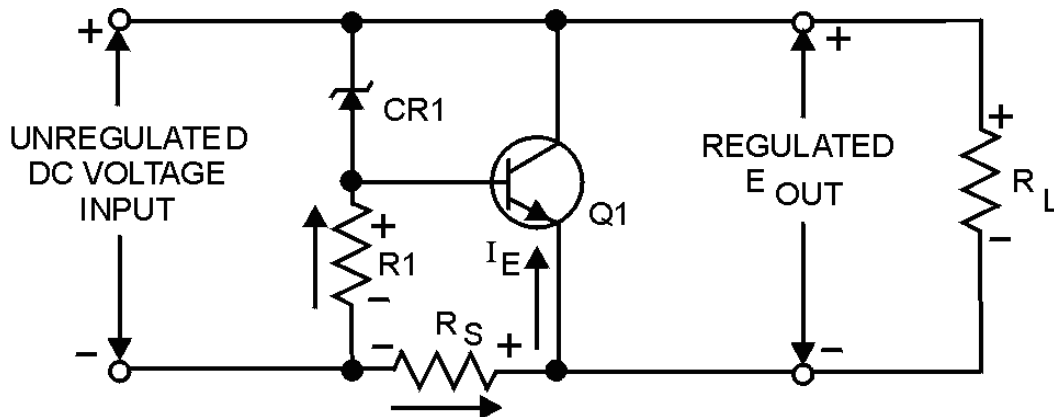
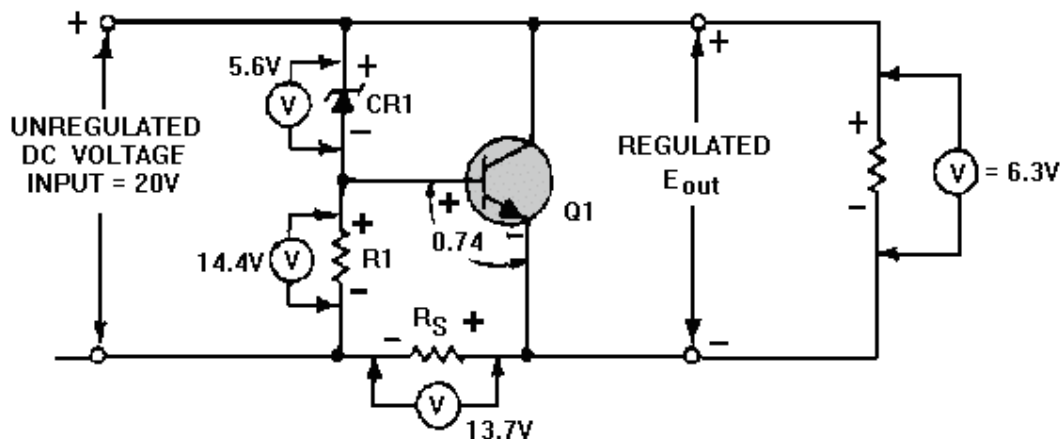

Figure 4-37.—Shunt voltage regulator.
Figure 4-38.—Shunt voltage regulator (with voltages).
The schematic shown in figure 4-37 is that of a shunt voltage regulator. Notice that Q1 is in parallel with the load. Components of this circuit are identical with those of the series voltage regulator except for the addition of fixed resistor  $R_S$ . As you study the schematic, you will see that this resistor is connected in series with the output load resistance. The current limiting resistor (R1) and Zener diode (CR1) provide a constant reference voltage for the base-collector junction of Q1. Notice that the bias of Q1 is determined by the voltage drop across  $R_S$  and R1. As you should know, the amount of forward bias across a transistor affects its total resistance. In this case, the voltage drop across  $R_S$  is the key to the total circuit operation.
Figure 4-38 is the schematic for a typical shunt-type regulator. Notice that the schematic is identical to the schematic shown in figure 4-37 except that voltages are shown to help you understand the functions of the various components. In the circuit shown, the voltage drop across the Zener diode (CR1) remains constant at 5.6 volts. This means that with a 20-volt input voltage, the voltage drop across R1 is 14.4 volts. With a base-emitter voltage of 0.7 volt, the output voltage is equal to the sum of the voltages across CR1 and the voltage at the base-emitter junction of Q1. In this example, with an output voltage of 6.3 volts and a 20-volt input voltage, the voltage drop across  $R_S$  equals 13.7 volts. Study the schematic to understand fully how these voltages are developed. Pay close attention to the voltages shown.
Now, refer to view A of figure 4-39. This figure shows the schematic diagram of the same shunt voltage regulator as that shown in figure 4-38 with an increased input voltage of 20.1 volts. This increases the forward bias on Q1 to 0.8 volt. Recall that the voltage drop across CR1 remains constant at 5.6 volts. Since the output voltage is composed of the Zener voltage and the base-emitter voltage, the output voltage momentarily increases to 6.4 volts. At this time, the increase in the forward bias of Q1 lowers the resistance of the transistor allowing more current to flow through it. Since this current must also pass through  $R_S$ , there is also an increase in the voltage drop across this resistor. The voltage drop across  $R_S$  is now 13.8 volts and therefore the output voltage is reduced to 6.3 volts. Remember, this change takes place in a fraction of a second.
- Q33. In figure 4-37, the voltage drop across  $R_S$  and  $R_1$  determines the amount of base-emitter \_\_\_\_\_ for  $Q_1$ .